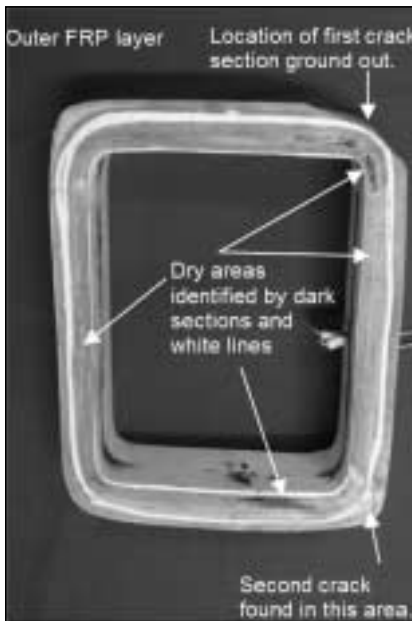

Figure 1 Showing cross section of boom with resin depleted or dry glass areas and location of cracks.
Poor quality boom manufacturing can result in significant internal discontinuities that may also propagate externally or internally under normal service loading. See figure 1, a defective boom picked up in a regular Acoustic Emission (AE) test program. More details on this test are available on request.